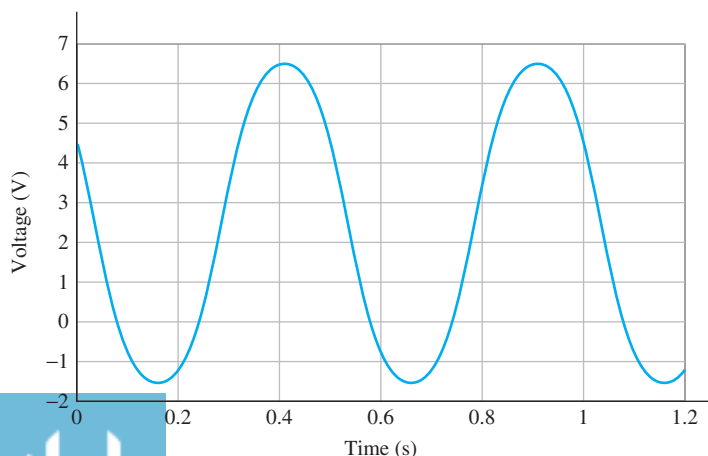

FIGURE P6.13 Voltage plot for Problem 6.13.
- 6.13 (H)* A voltage source plot is shown in Figure P6.13. Determine the period and function of this sinusoidal voltage.